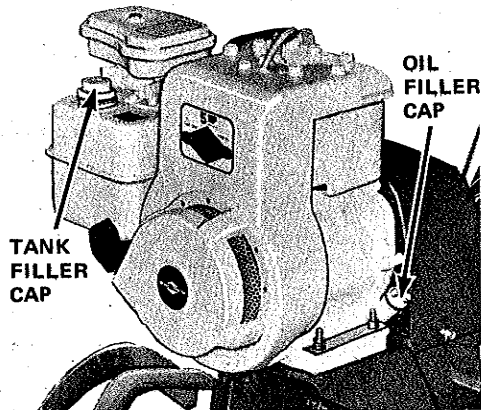

Figure 10.
- b. **FUEL.** See Figure 10. Have available sufficient quantities of clean, fresh (leaded or non-leaded), "regular" automotive gasoline. Remove fuel tank cap and fill completely. Fuel capacity is 3 quarts.
c. OIL. See Figure 10. Have available sufficient quantities of engine crankcase oil, SAE 30 grade MS. Remove dirt around engine filler plug on left side of engine. Remove engine filler plug by turning counter-clockwise. Fill with oil until level with top of neck. Crankcase capacity is 1-1/4 pints. Re-install filler cap securely. Check oil level every time fuel is added.
- d. Remove dirt around engine oil filler plug (See Figure 10).